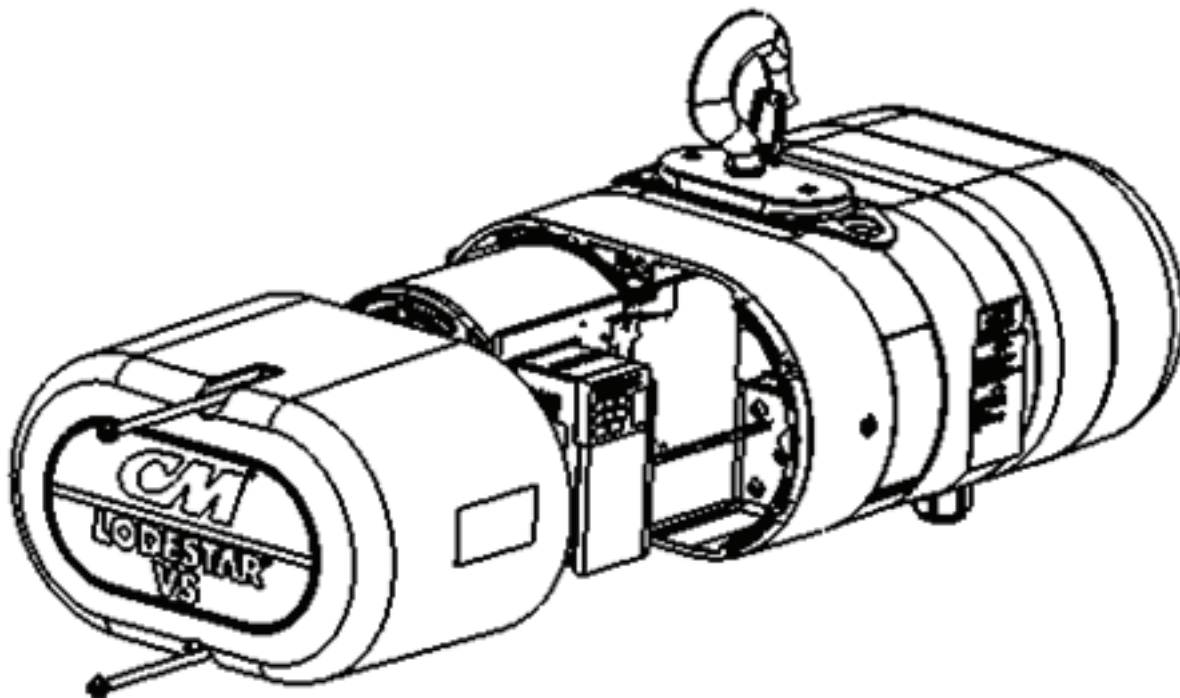

Figure 10: VFD End Cover Removal
1. Remove the hoist VFD end cover to access the VFD location connecting the M12 data port wires (shown in Figure 10).